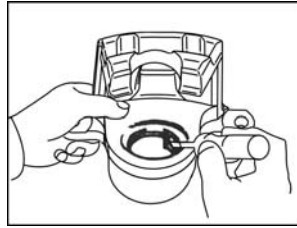

Fig. 2-55
12) Remove the oil seal of piston. Take out the oil seal from the brake slave cylinder by a screwdriver. See Fig. 2-55.